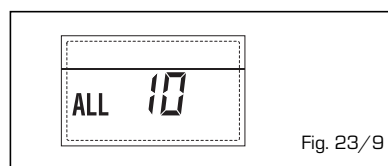

Fig. 23/9
**- INTERVENTO SONDA FUMI "ALL 13" (fig. 23/10)**